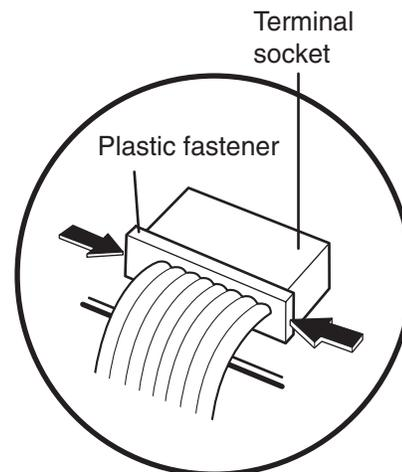

Figure 17
- (3) Lock the level of the plastic fastener into the hook of the terminal socket securely by releasing the fingers. (Figure 17)